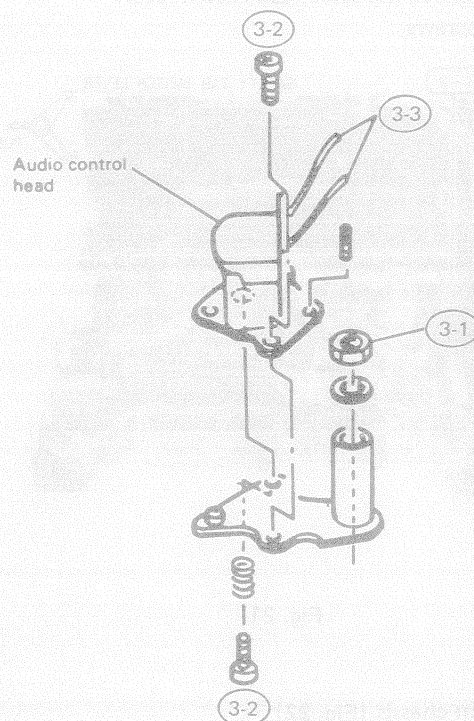

Fig. 20
- 2) 2 screws (Fig. 20)
- 3) Unsolder 2 leads (Fig. 20)